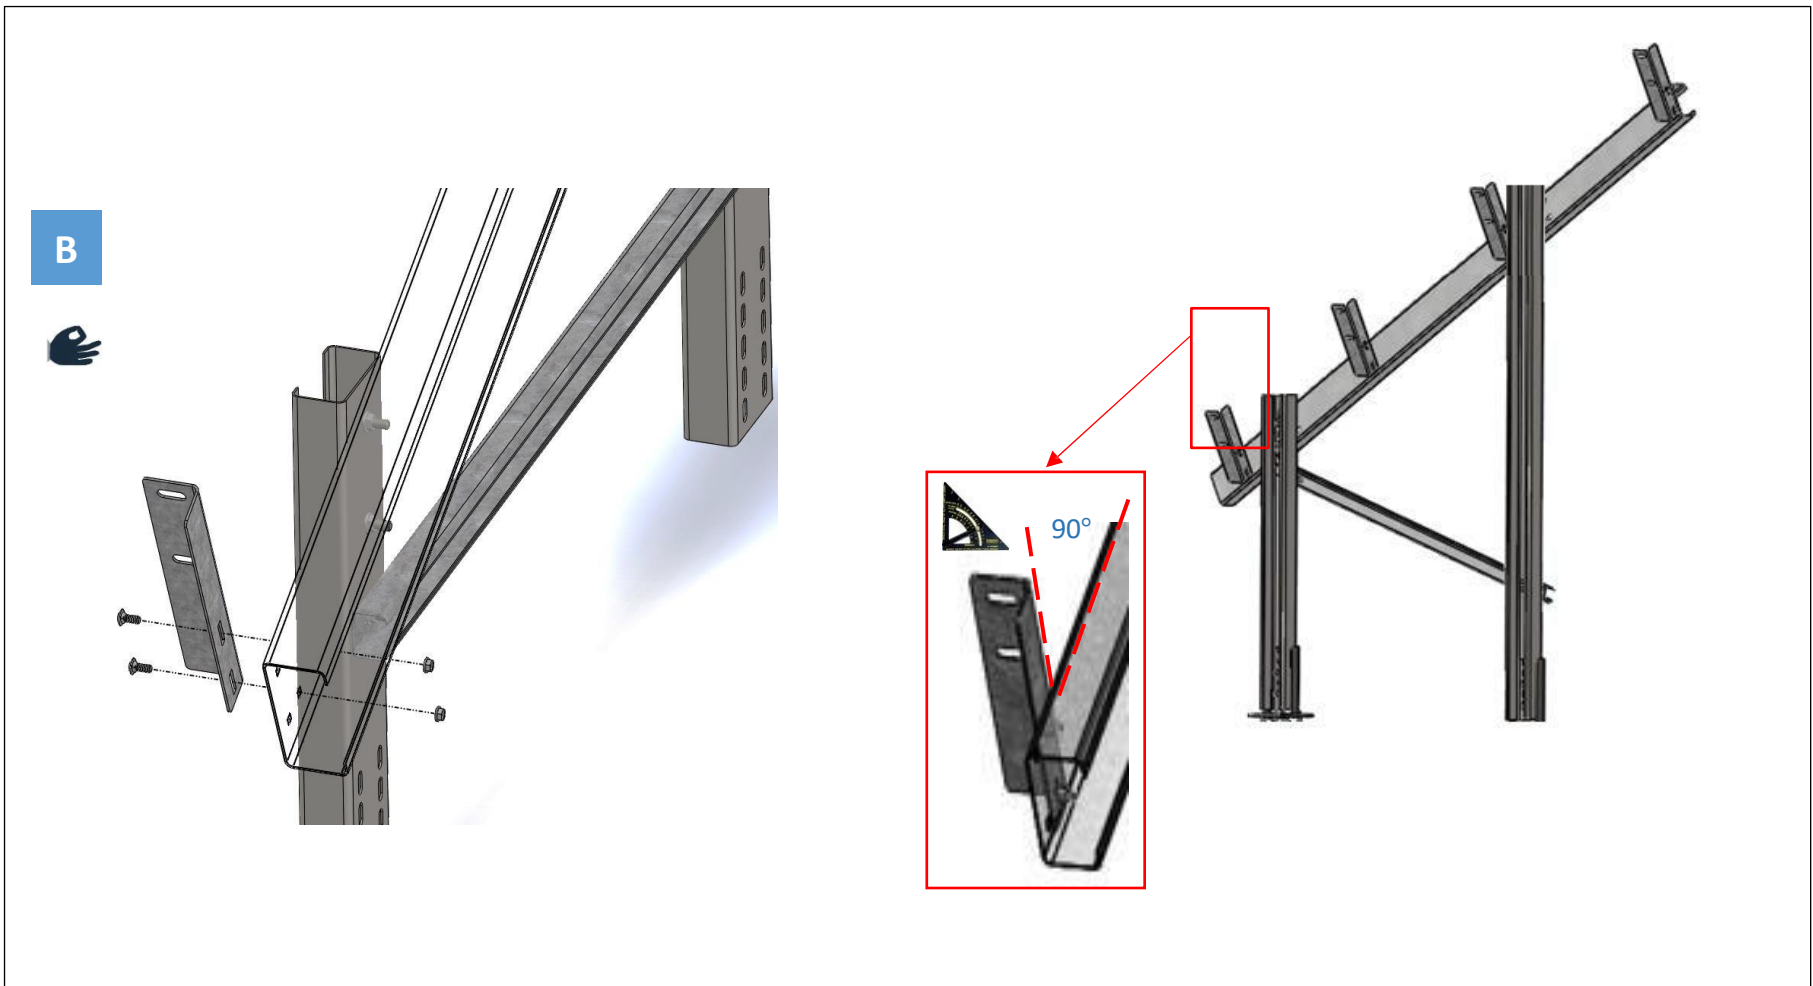

Figure 13: East-West Bracket Installation (Completing A frame)
Step One Install 4 (four) East-West Brackets to North-South Beam by hand tightening fasteners using two (2) 3/8"–16 Carriage Bolt, 1" Length, Grade 5, Magni 565 Coated or HDG and two (2) 3/8"–16 Serrated Flange Nut, Grade 5, Magni 565 Coated or HDG per bracket as shown in figure 13 (a). Using a square, ensure the perpendicularity of the East-West bracket with the North-South beam as shown in figure 13 (b).